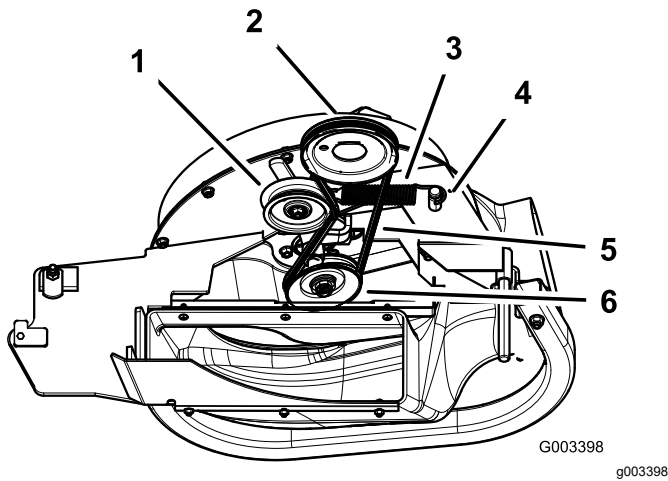

Figure 12
- For 60- and 72-inch mowers, install the belt around the blower pulley (Figure 12).